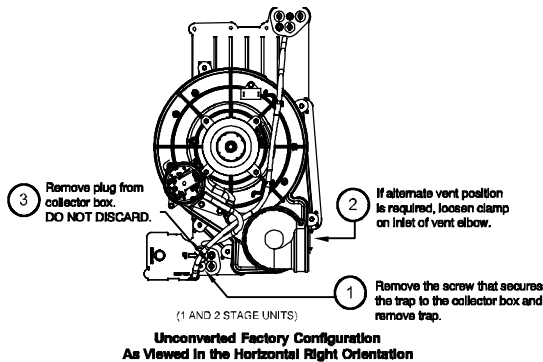
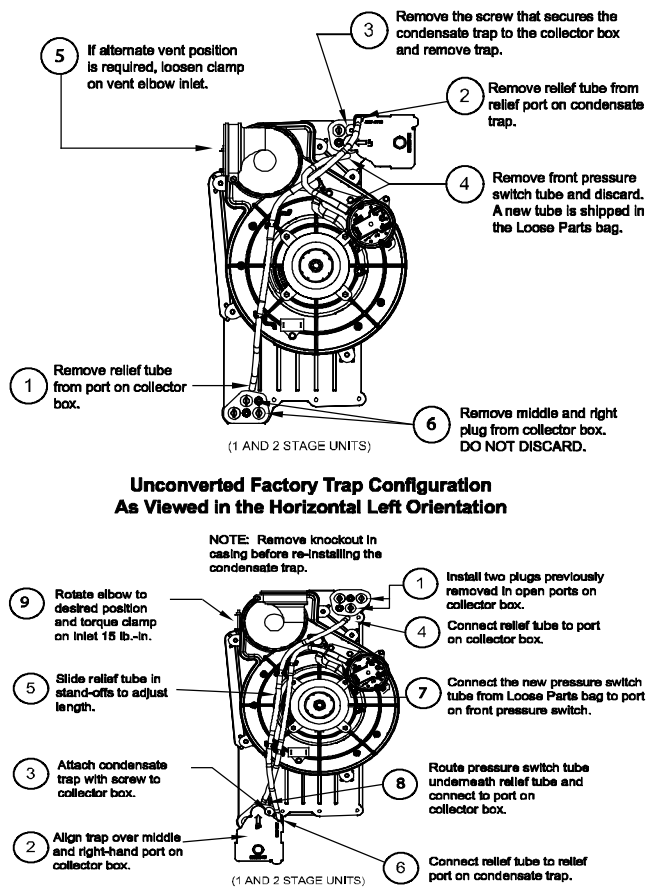

Fig. 11 - Horizontal Right Trap Configuration
Fig. 12 - Horizontal Left Configuration
When the furnace is installed in the horizontal right position, the condensate trap will be initially located at the bottom of the collector box, as received from the factory. See the top image in Fig. 11. When the furnace is installed in the horizontal left position, the condensate trap will be initially located at the top of the collector box, as received from the factory. See the top image in Fig. 12. In both cases the trap must be repositioned on the collector box for proper condensate drainage. See the bottom images in Fig. 11 and 12.
- Fig. 11 shows the condensate trap and tubing before and after relocation in the horizontal right position.
- Fig. 12 shows the condensate trap and tubing before and after relocation in the horizontal left position.